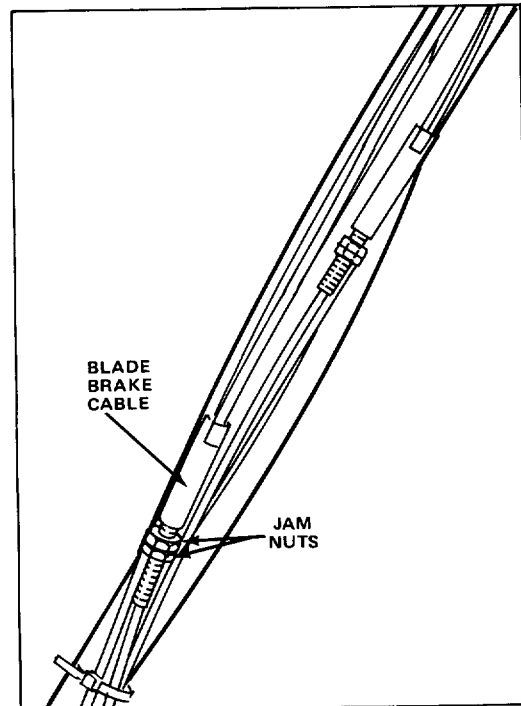

Figure 27
4. **ADJUSTMENT** (Fig. 27) – Loosen bottom jam nut on blade brake cable. Move top jam nut up to decrease clearance between the cable end and the plastic fitting. Move jam nut down to increase clearance between the cable end and the plastic fitting.
2. Push the control bar shown to the lowest position (Fig. 27). This "latches" the mechanism prior to engaging the blade.